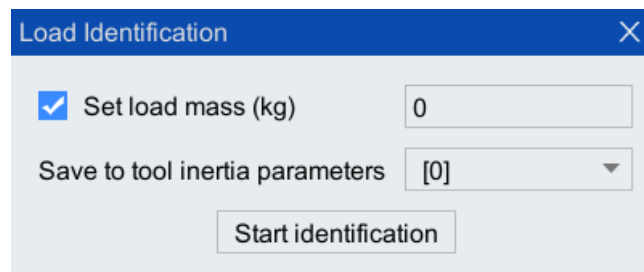

Figure 5-110 Load parameter identification configuration interface
Step3.Click the <Identify> button to pop up the configuration interface as shown in Figure 5-110.